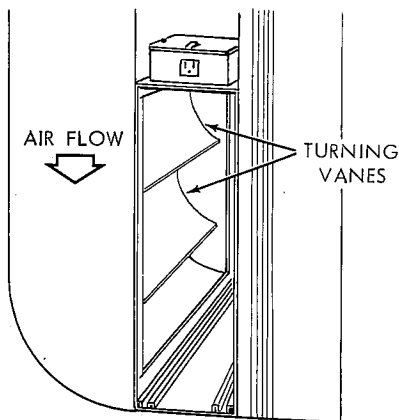

Figure 14
4. Using butt joint, attach ductwork (normally an elbow) to the upstream side of air cleaner cabinet. (Note the use of the sheet metal turning vanes inside the elbow (figure 14) to improve air distribution over the face of the cells.)